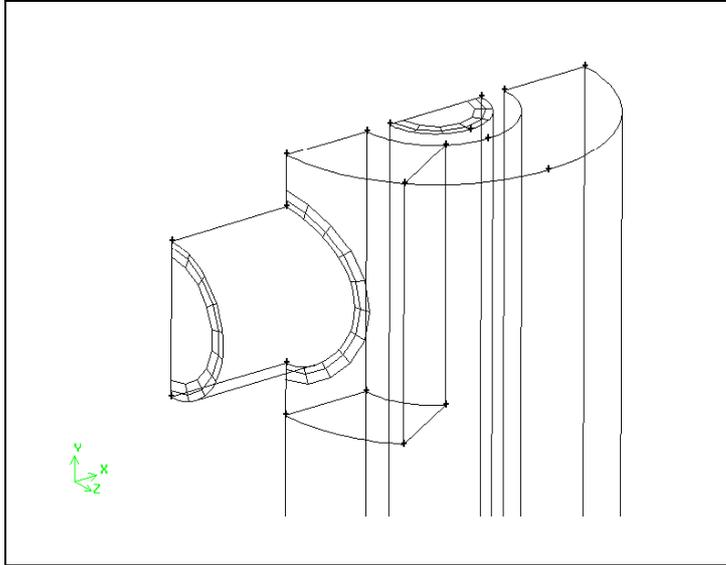

Figure 7-30: Edges on which to apply the boundary layers, showing the directions in which the boundary layers should point
2. Create boundary layers on the edges shown in Figure 7-30.
- f) Select the edges shown in Figure 7-30 with boundary layers on them. The boundary layers should appear in the directions shown in Figure 7-30. If they do not, *Shift*-middle-click an edge to change the direction of the boundary layer.